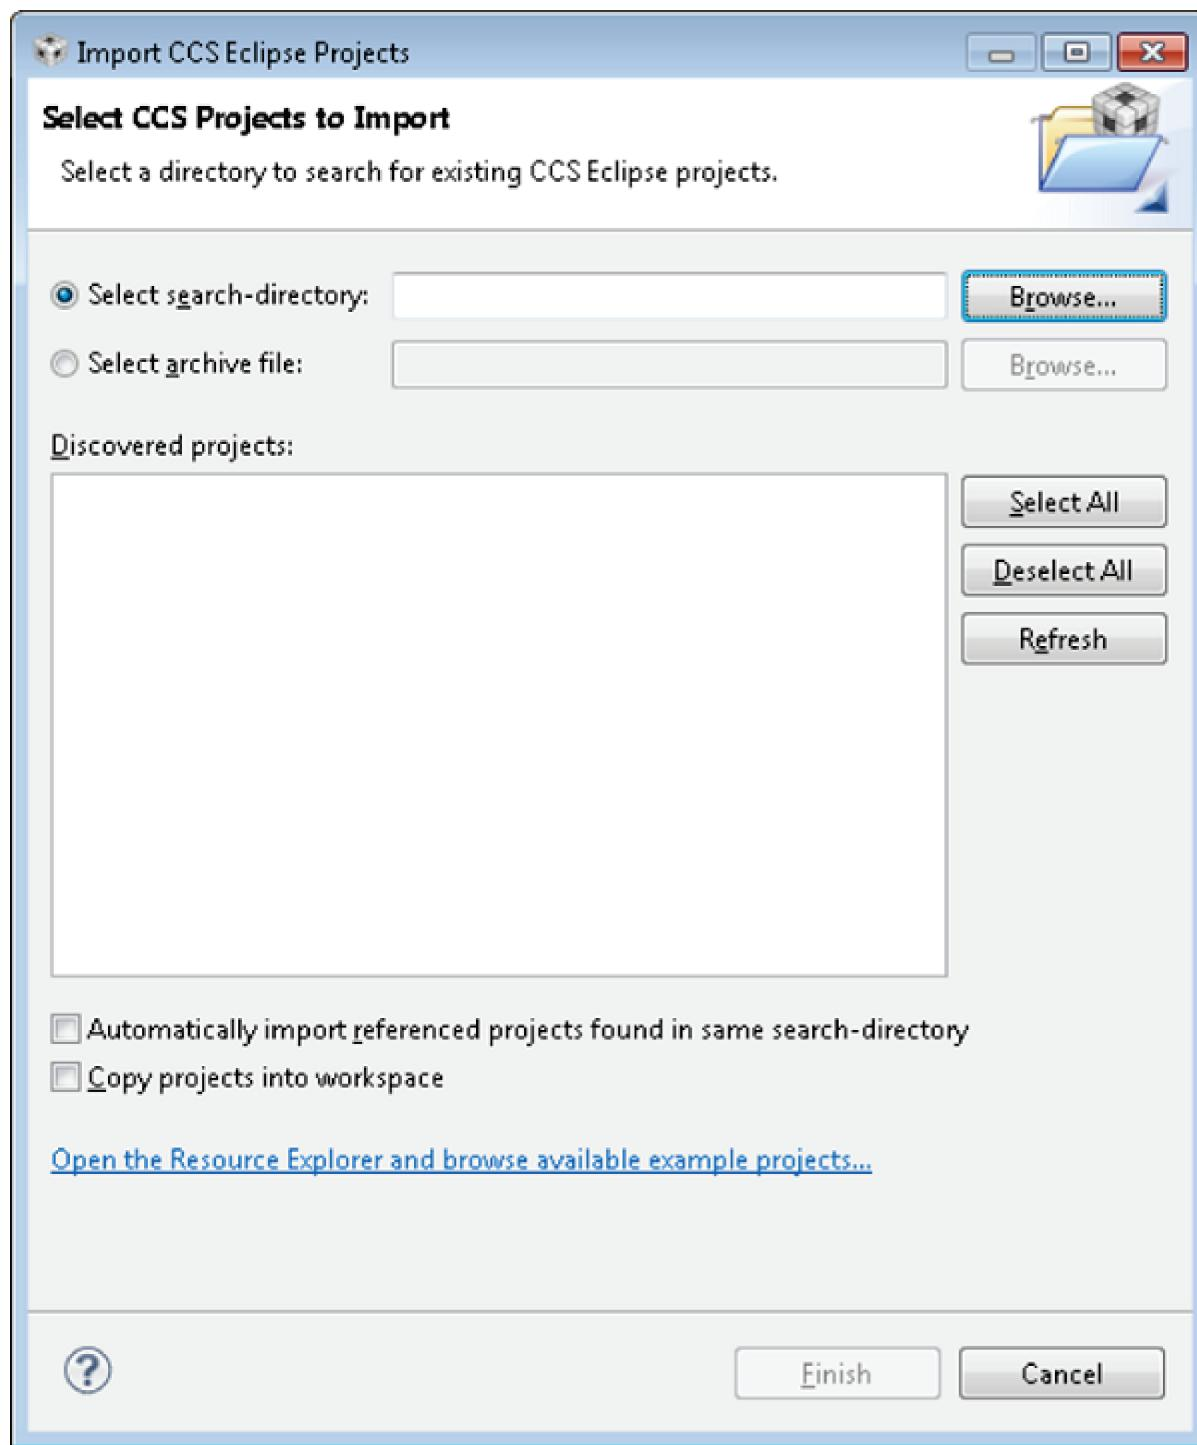

Figure 3-1. Select CCS Projects to Import
3. Select the Browse button in the Import CCS Eclipse Projects dialog, as shown in Figure 3-1, and select the directory <sdk-installation-path>\examples\os\CC3220SF_LAUNCHXL\demos (use relative path of CC3220S if needed).